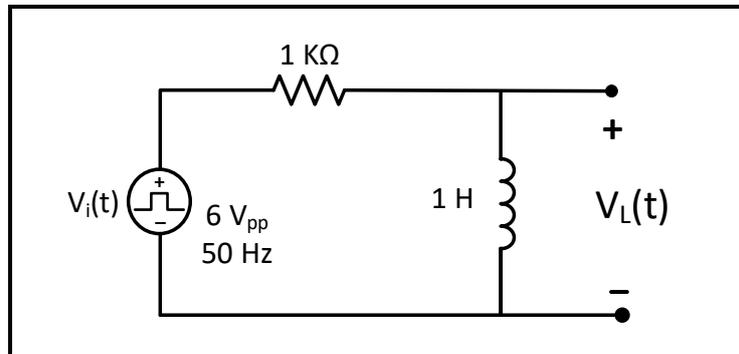

Figure 6.7
For the circuit of Figure 6.7:
1. Connect the circuit shown in Figure 6.7, with the function generator set to produce a square wave of: $V_{in} = 6 V_{pp}$, $f = 50 \text{ Hz}$, and DC offset 3 V.